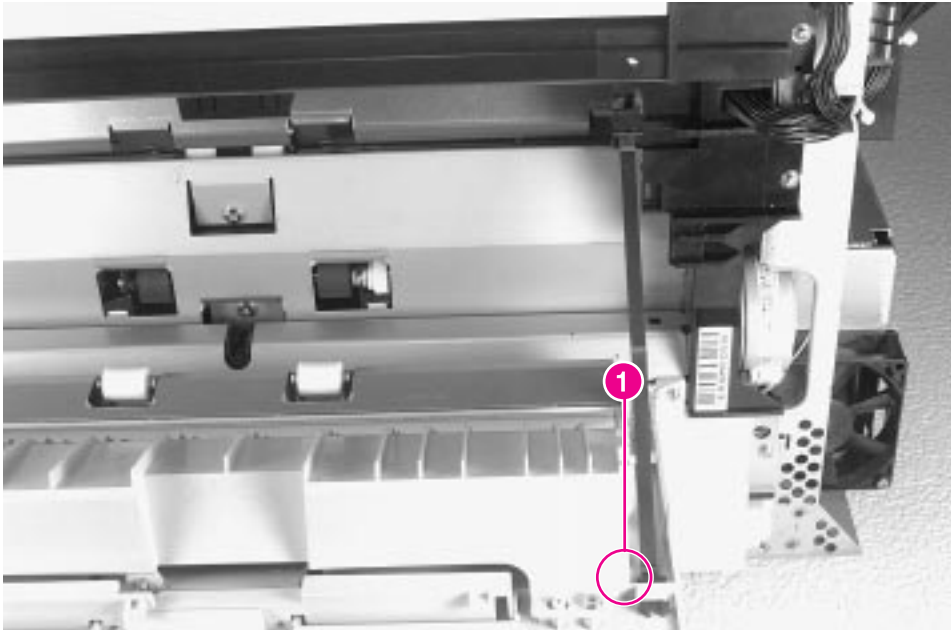

Figure 6-15 Right Lower Door Assembly (1 of 3)
- 3 Open the Right Lower Door, and release the lower end of the support strap (figure 6-15, callout 1).